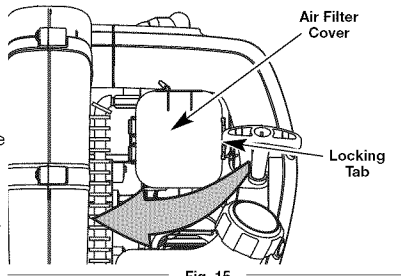

Fig. 15
- To open the air filter cover, push the locking tab on the right side of the cover inward, then pull the air filter cover out and to the left (Fig. 15).